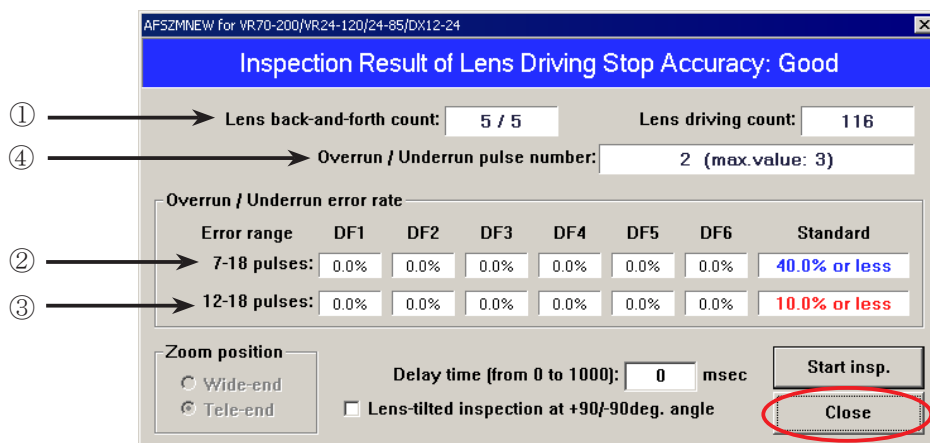

Fig.2
- 19-or-more pulse occurrence: 0 for DF1 ~ Df6 ④ of "Fig.2"
⑤ When the operation check is completed, the result is displayed as shown in "Fig.2".
- ② Select each driving amount. Confirm that each lens driving time is within the standard. (Fig.2)
- ③ If the inspection result is within standard, click "Close" to end. If any of each driving amount becomes out of standard, make the readjustment by referring to Page L56-16.